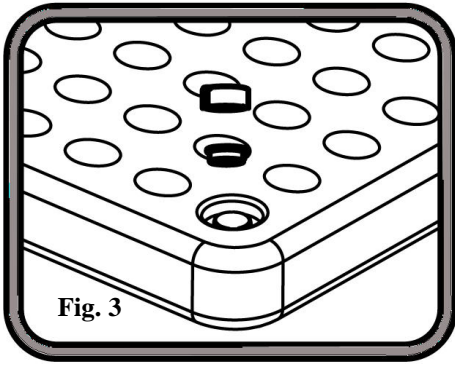

Fig. 3
3. Unscrew the cover and take out the rubber plug. See Fig. 3